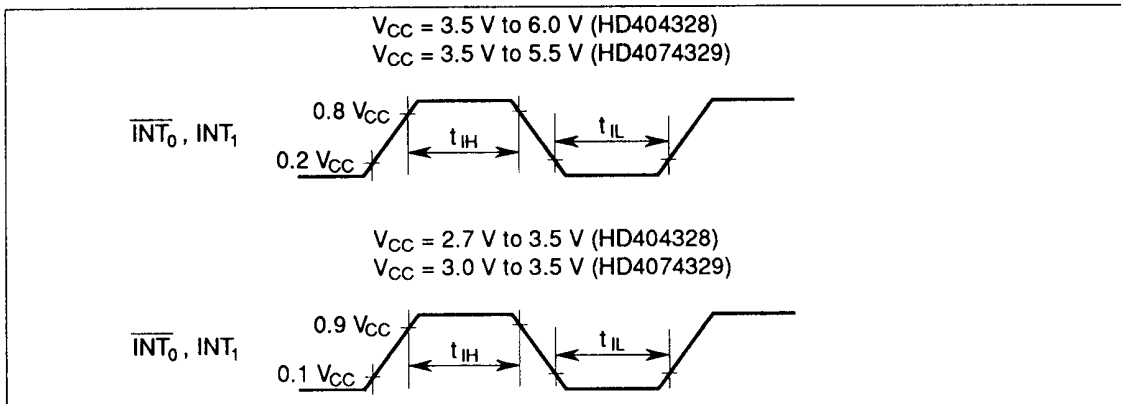

Figure 52 Interrupt Timing
5. Refer to figure 52. The  $t_{cyc}$  unit applies when the MCU is in standby or active mode.
6. Refer to figure 52. The  $t_{SUBcyc}$  unit applies when the MCU is in watch or subactive mode.  $t_{SUBcyc} = 244.14 \mu\text{s}$  (32.768-kHz crystal)